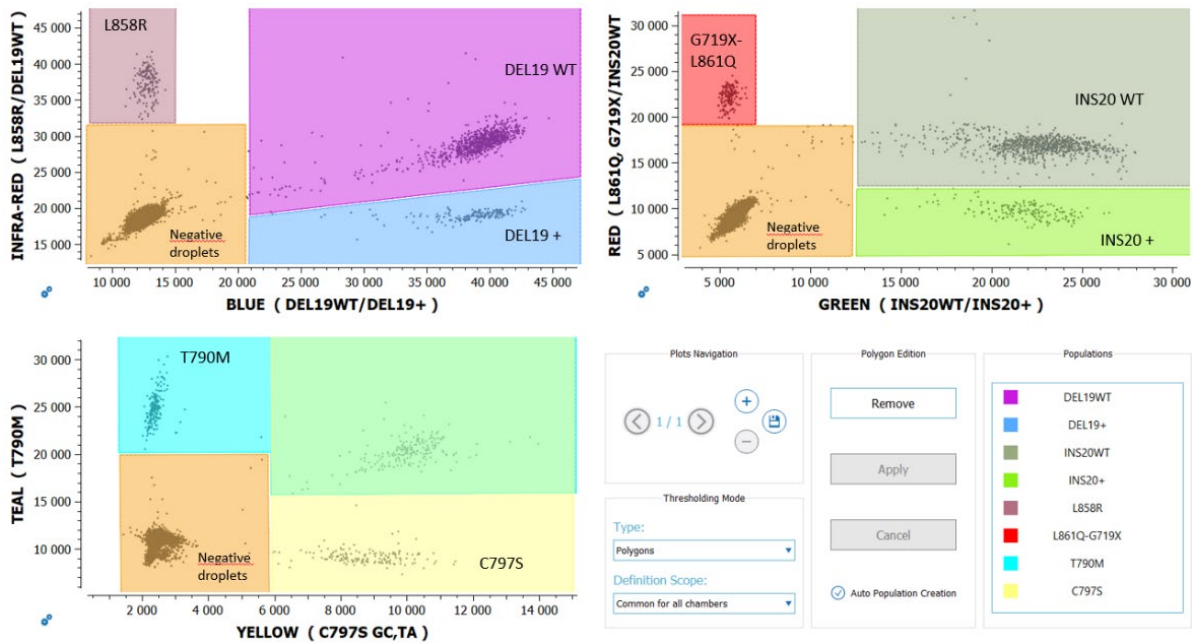

Figure 5: An example illustrating correct placement of the polygons on the positive control in the Crystal Miner software.
3. Check or manually adjust the position of the polygons for each target population listed in the “Populations” widget for the **positive control** of the run (refer to the example in Figure 5 below).